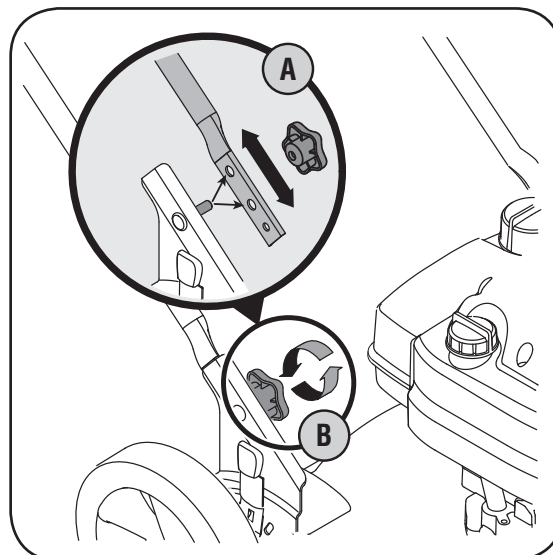

Figure 3-3: Secure lower handle to mounting brackets.
- a. Position each handle bracket stud into the top or bottom hole in the lower handle, Figure 3-3.